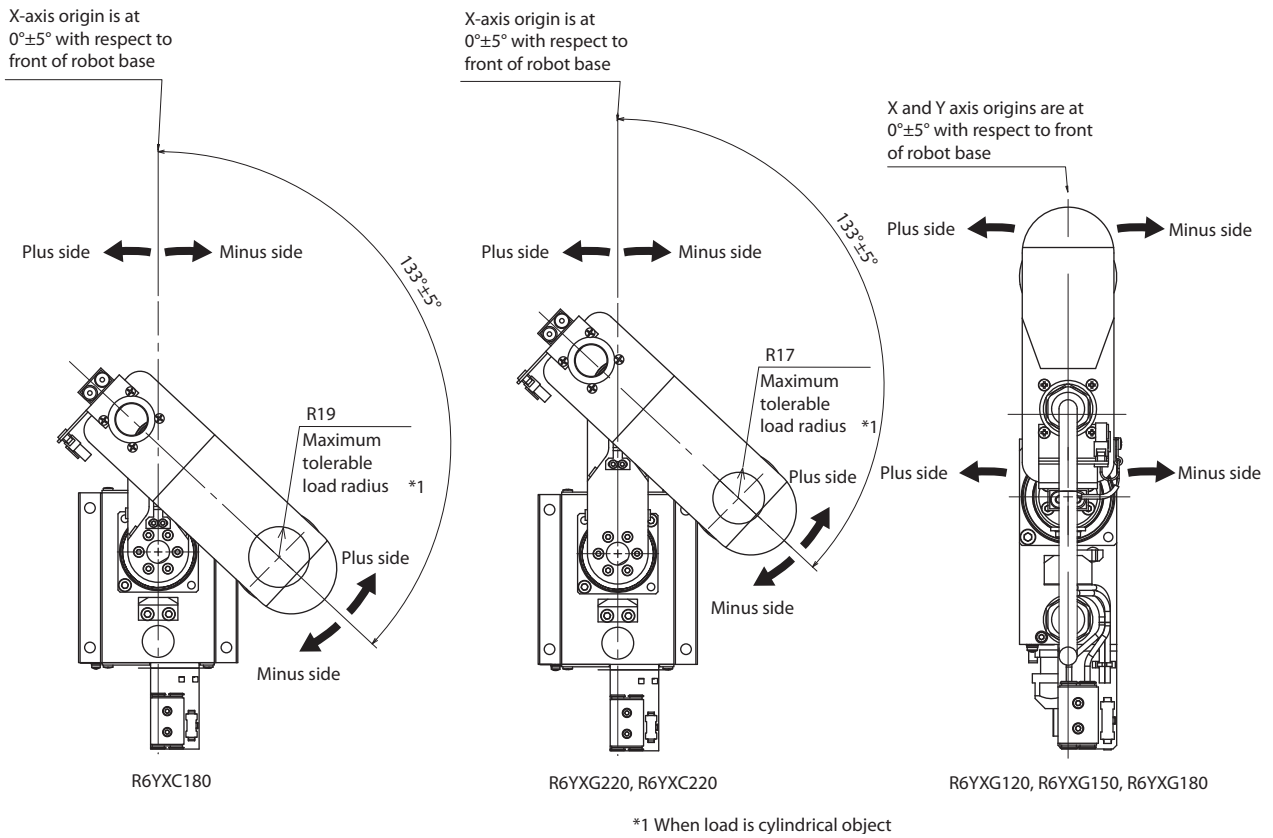

Fig. 4-5 Default origin position
THE ORIGIN CANNOT BE DETECTED IN ANY AXIS WHICH IS NOT POSITIONED ON THE PLUS SIDE FROM THE ORIGIN (SEE FIG. 4-5.) BEFORE STARTING THE RETURN-TO-ORIGIN OPERATION. (FACTORY SETTING AT SHIPMENT.)
THE X AND Y-AXES WILL MOVE TO THE POSITIONS SHOWN IN FIG. 4-5 DURING RETURN-TO-ORIGIN, SO MAKE SURE THAT THE TOOL ON THE END, THE ROBOT AND THE PERIPHERAL DEVICES DO NOT INTERFERE. THE MAXIMUM TOLERABLE LOAD RADIUS (WHEN LOAD IS CYLINDRICAL OBJECT) IS SHOWN IN FIG. 4-5. IF RETURN-TO-ORIGIN IS PERFORMED WITH A LOAD LARGER THAN THIS RADIUS INSTALLED ON THE R-AXIS, THE BASE AND LOAD COULD INTERFERE. SINCE THE X-AXIS ARM FIRST RETURNS TO THE ORIGIN, THE TOOL ON THE END MIGHT INTERFERE WITH THE ROBOT BASE (PEDESTAL) IF THE Y-AXIS ARM IS NEAR ITS ORIGIN.
- 6) Move the X and Y axes to a position on the plus side of their origins (See Fig. 4-5) so that the robot is positioned in a left-handed system as shown in Fig. 4-5. If the axes are not at these positions, press the jog keys, etc. and move the target axes. When performing absolute reset for the other axes at the same time, check that the other axes are also at an appropriate position. (Refer to procedures for absolute reset of other axes.)